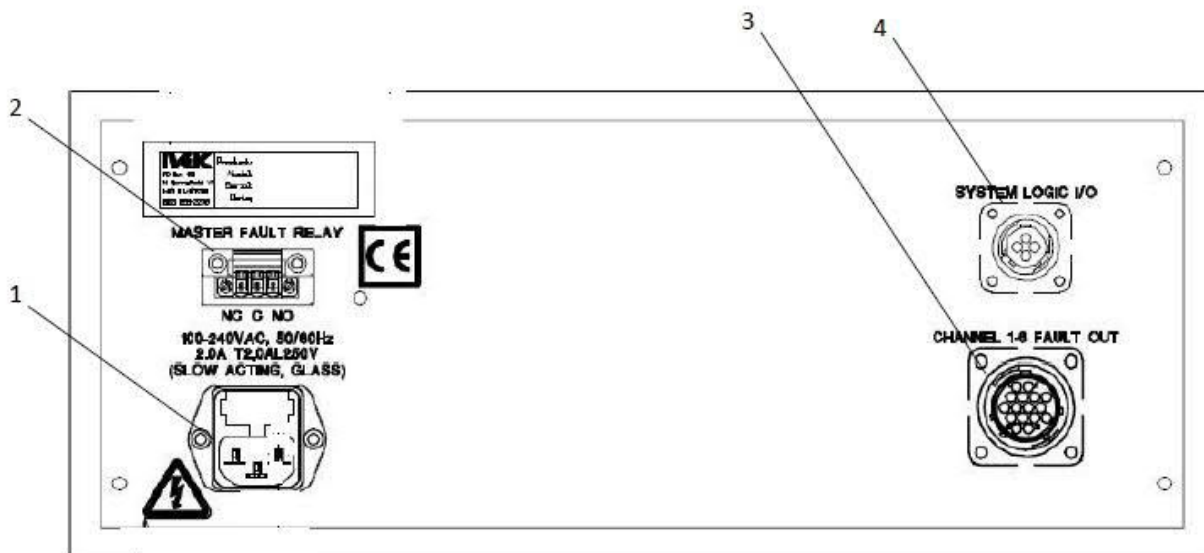

Figure 11.2 Multiple Liquid Eye Rear Panel (Model # 520174-#### shown for reference)
**11.1.2 Rear Panel (Figure 11.2)**